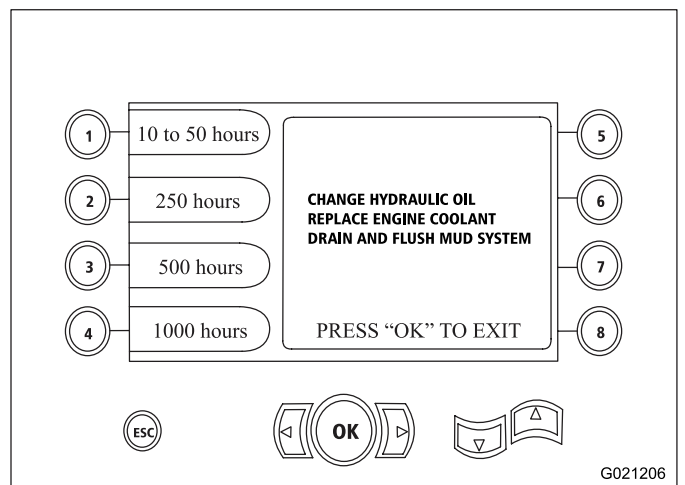

Figure 27
- Button 4—1,000-hour maintenance schedule (Figure 27)